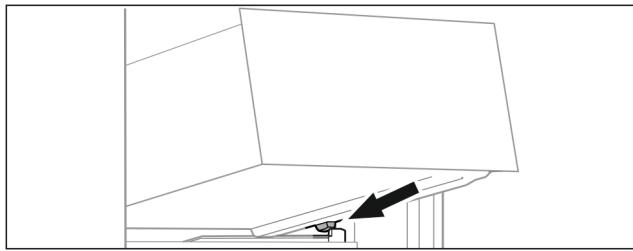

Fig. 121
- ▶ Place drawer at an angle behind the stoppers on the moulded rib. (see Fig. 121)